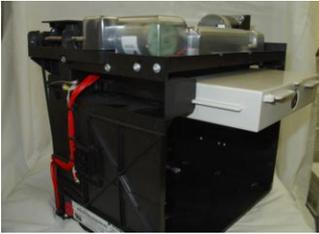

Figure 4-13. Remove reject cassette.
1. Slide the reject tray out of its compartment in the dispensing mechanism. Place the tray on a flat surface. (Figure 4-13)